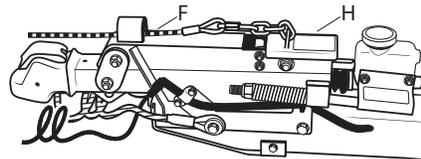

Figure 11
⚠ NEVER tow the AT unless the emergency brake pedal (H) is in the fully down position. (Figure 11) See decals also, for proper position of emergency brake pedal for towing. The emergency brake cable (F) attaches to the emergency brake pedal (H) on top of the hydraulic brake mechanism. (Figure 11) When the emergency brake cable is pulled forcefully, the emergency brake pedal will move upwards and lock, activating the AT brakes. The AT brakes will remain activated until the emergency brake pedal is reset to the fully down position. Call U-Haul at **1-800-GO-U-HAUL** if you need the emergency brake reset to down position.